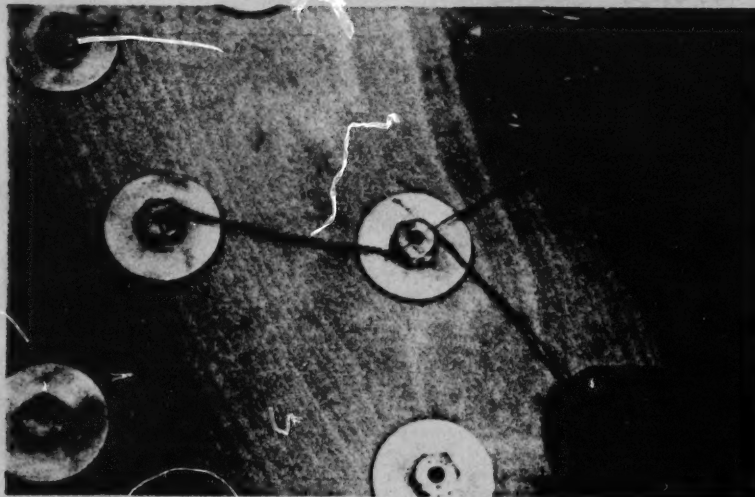

Figure 15. Wire goes around Bolt head in Clockwise Direction.
13. While keeping tension on the wire extending through the bolt head, pull the other wire around the bolt in a clockwise direction, (figure 15). After the wire is bent around the bolt head, pass it under the wire that extends through the bolt head.